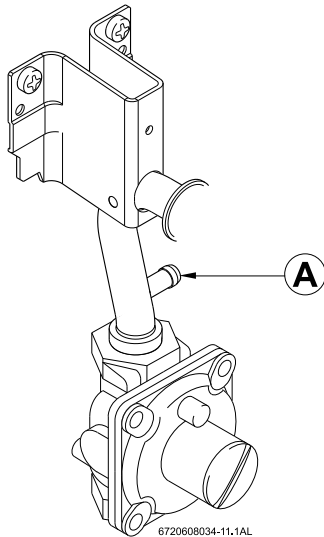

Fig. 15 Gas pressure measuring point
- ▶ Remove front cover and locate inlet gas pressure measuring point on the right side, see Fig. 15.